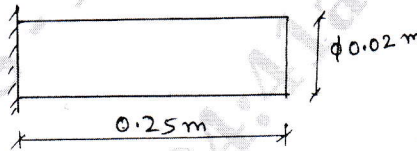

Fig.Q10(b)
- b. Evaluate eigen value and eigen vector of longitudinal vibration of the constrained uniform circular bar shown in Fig.Q10(b). Take minimum two elements. Take $E = 210 \text{ GPa}$ and $\rho = 7860 \text{ kg/m}^3$.